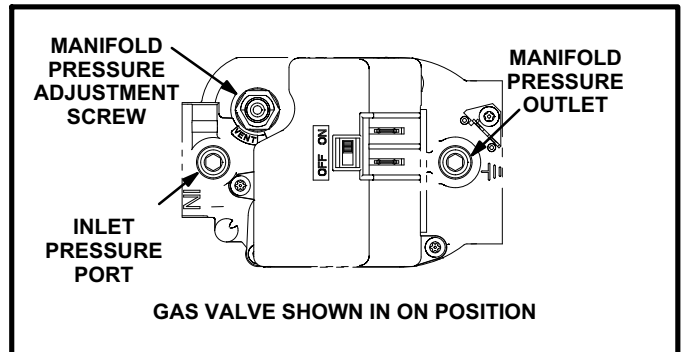

FIGURE 54
Gas Valve Operation (Figure 54)
- 6 - Move gas valve switch to **OFF**. See figure 54.
- 8 - Move gas valve switch to **ON**. See figure 54.
When testing supply gas pressure, use the 1/8" N.P.T. plugged tap or pressure post located on the gas valve to facilitate test gauge connection. See figure 54. Check gas line pressure with unit firing at maximum rate. Low pressure may result in erratic operation or underfire. High pressure can result in permanent damage to gas valve or overfire.